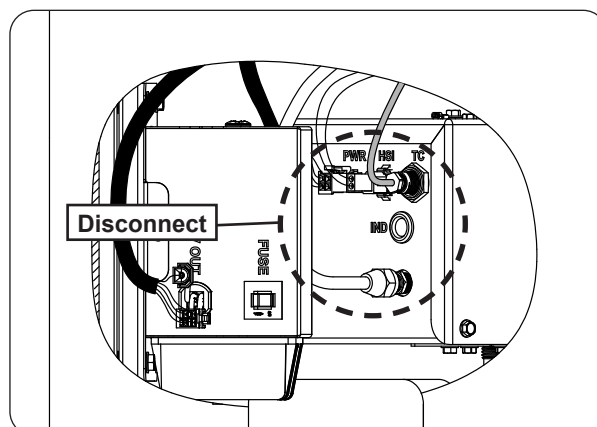

Fig. 28-2 Disconnect pilot line, thermocouple, and hot surface igniter from control box
2. Disconnect the pilot line, thermocouple, and hot surface igniter from the control box (see Fig. 28-2).